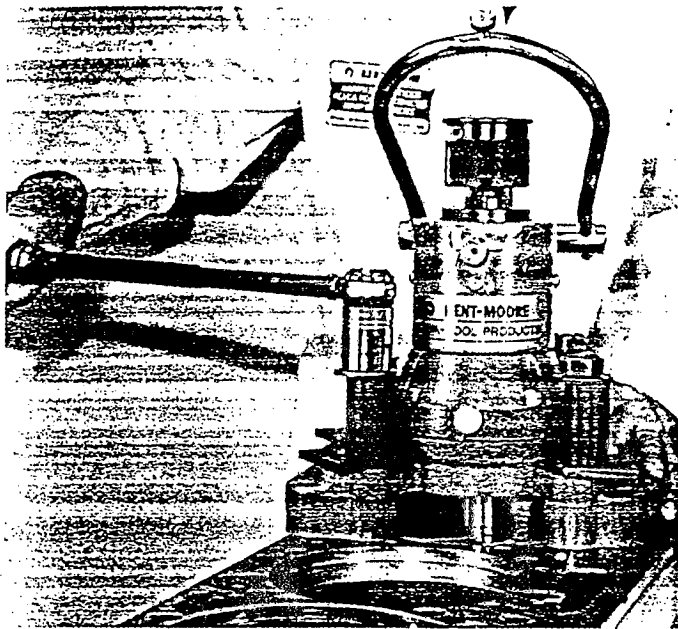

FIGURE 5
4. Cross torque the (4) cylinder head bolts gradually to 50 ft/lbs. Swing handle down and lock in position. Rotate mainshaft of boring tool to ensure cutter plate is centered in bore. If binding occurs, loosen head bolts and repeat Steps 3 and 4. (See Figure 5)